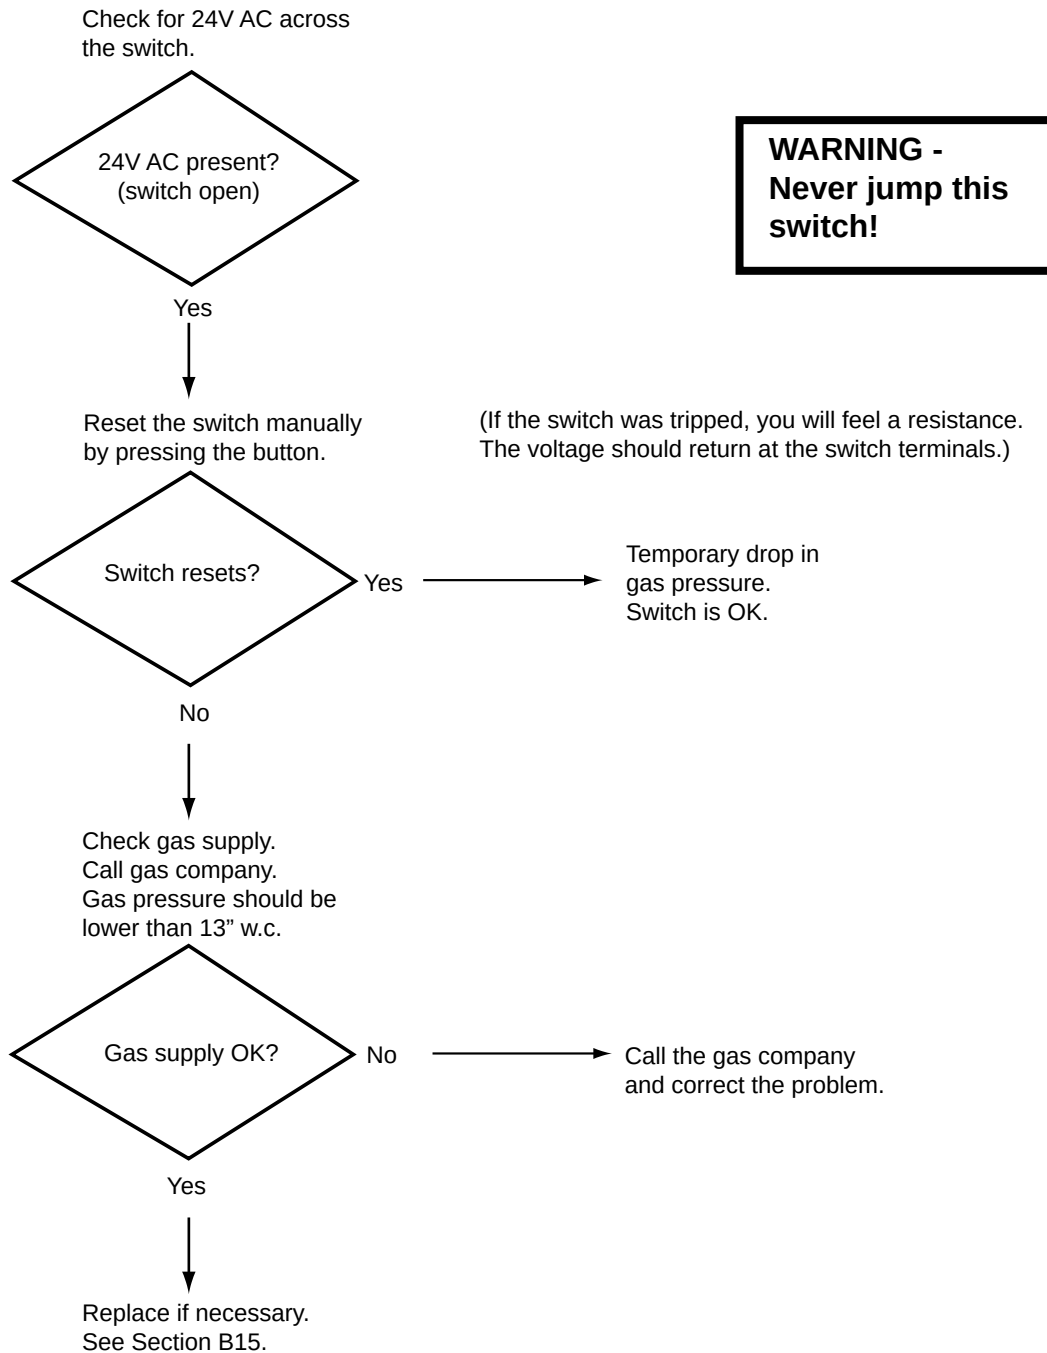

Fig. B11-7 - Gas valve
12. Figure B11-7 shows the gas valve after it has been removed. Notice the rubber washer - be careful to install this correctly when mounting the new valve.